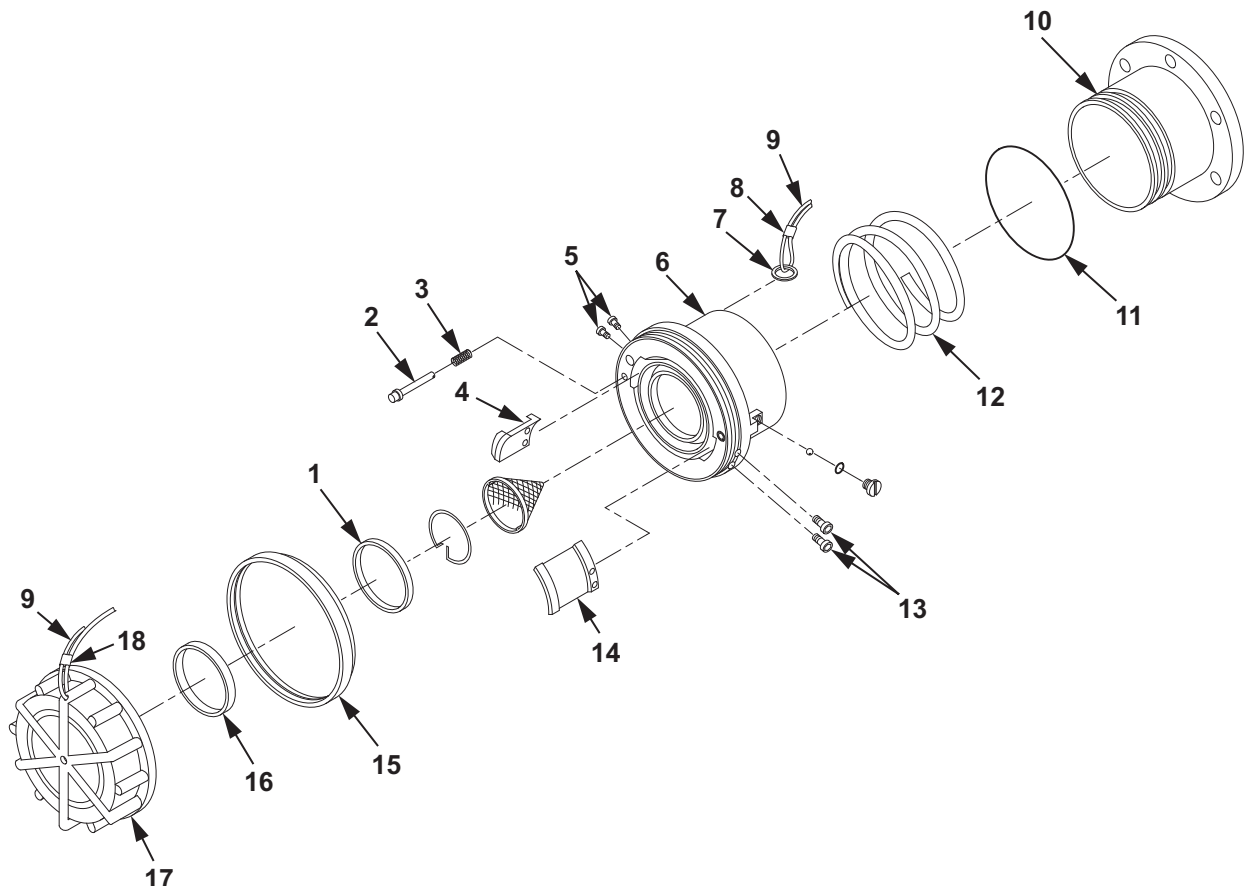

Figure 2. 2 In. Quik Disconnect Coupling Half Assembly.
1. Install new seal (Figure 2, Item 16) into the dust cap (Figure 2, Item 17). Use a finger to seat the seal (Figure 2, Item 16) in the groove of the dust cap (Figure 2, Item 17).
If cable (Figure 2, Item 9) was cut to remove it from the dust cap (Figure 2, Item 17), a new cable must be installed.
2. Attach a length of cable (Figure 2, Item 9), approximately 18 in. long to dust cap (Figure 2, Item 17) by looping about 6 in. of cable (Figure 2, Item 9) through the hole in dust cap (Figure 2, Item 17), then forming a loop back on the cable (Figure 2, Item 9).
3. Retain the loose end of the cable (Figure 2, Item 9) with a sleeve (Figure 2, Item 8).
4. Using a pair of pliers, crush the sleeve (Figure 2, Item 8) to retain the cable (Figure 2, Item 9).
5. Attach the cable (Figure 2, Item 9) to ring (Figure 2, Item 7) by looping cable (Figure 2, Item 9) through the ring (Figure 2, Item 7), forming a loop back on the cable (Figure 2, Item 9).
6. Retain the loose end of the cable (Figure 2, Item 9) with a sleeve (Figure 2, Item 8).
7. Using a pair of pliers, crush the sleeve (Figure 2, Item 8) to retain the cable (Figure 2, Item 9).
If pin (Figure 2, Item 2) and spring (Figure 2, Item 3) were removed, install the pin (Figure 2, Item 2) and spring (Figure 2, Item 3).
8. Install spring (Figure 2, Item 3) into hole in face of coupling (Figure 2, Item 6).
9. Install pin (Figure 2, Item 2) through spring (Figure 2, Item 3) and retain pin (Figure 2, Item 2) by threading ring (Figure 2, Item 7) through the hole in the pin (Figure 2, Item 2).
If lugs (Figure 2, Item 14, 4) and bumper (Figure 2, Item 15) were removed, install the lugs (Figure 2, Item 14, 4) and bumper (Figure 2, Item 15).
10. Install lug (Figure 2, Item 4) by matching the holes in the lug (Figure 2, Item 4) with the holes in the coupling (Figure 2, Item 6).
11. Install two screws (Figure 2, Item 5) through coupling (Figure 2, Item 6) and into lug (Figure 2, Item 4).
12. Using torque wrench and screwdriver bit, torque screws (Figure 2, Item 5) to 6 in. lb (0.68 N•m).
13. Install lug (Figure 2, Item 14) by matching the holes in the lug (Figure 2, Item 14) with the holes in the coupling (Figure 2, Item 21).
14. Install two screws (Figure 2, Item 13) through coupling (Figure 2, Item 6) and into lug (Figure 2, Item 14).
15. Using torque wrench and screwdriver bit, torque screws (Figure 2, Item 13) to 6 in. lb (0.68 N•m).
16. Install bumper (Figure 2, Item 15) with the thin lip seal end facing away from the coupling body (Figure 2, Item 6).
17. Install the seal (Figure 2, Item 1) into the groove in the face of the coupling (Figure 2, Item 6).
The inlet adapter contains two grooves. The groove (rounded bottom) nearest the end is for the ball race connection. The second groove (square bottom) is where O-ring (Figure 2, Item 11) will be installed.
18. Install spring (Figure 2, Item 12) into the groove within the larger opening of the coupling (Figure 2, Item 6).
19. Lubricate new O-ring (Figure 2, Item 4) with a light coat of petrolatum.
20. Install new O-ring (Figure 2, Item 11) in second groove of inlet adapter (Figure 2, Item 10).
21. Press inlet adapter (Figure 2, Item 10) into coupling (Figure 2, Item 6) to align the groove in the coupling (Figure 2, Item 6) with the groove in the inlet adapter (Figure 2, Item 10).